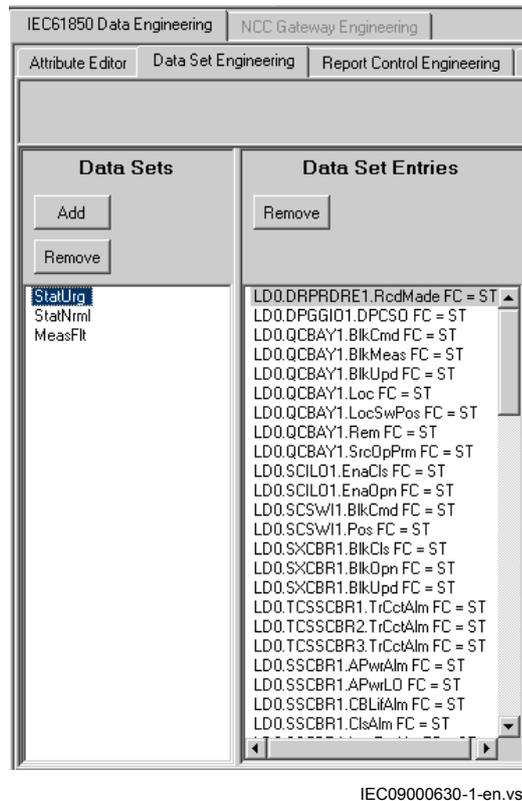

Figure 69: CCT600 data sets default content
- 3.1. Check the default data sets, see Figure 69.